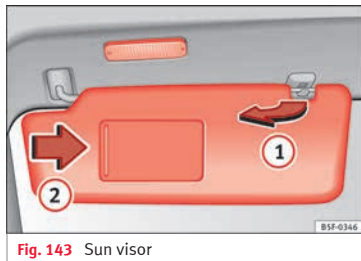

Fig. 143 Sun visor
- The sun visor can be pulled out of its mounting and turned towards the door »» Fig. 143 ①.
There may be a vanity mirror, with a cover, on the rear of the sun visor. When the cover is opened »» Fig. 143 ② a light comes on.